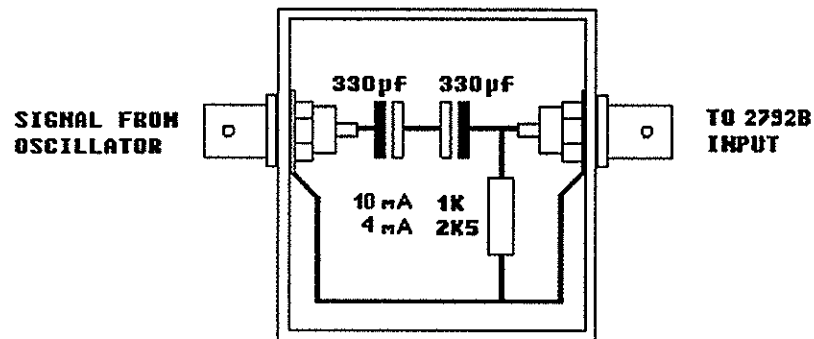

Figure 5
4. Connect the input test circuit, see figure 5. Set the "% of nominal sensitivity" switches to 100.0, and the gain switch S5 to x1. Adjust the signal generator to provide an input of 1.000V RMS at 1kHz. Check that the output of that channel, is 1.000V RMS \pm 1%, if not re-adjust/repair as per paragraph 6